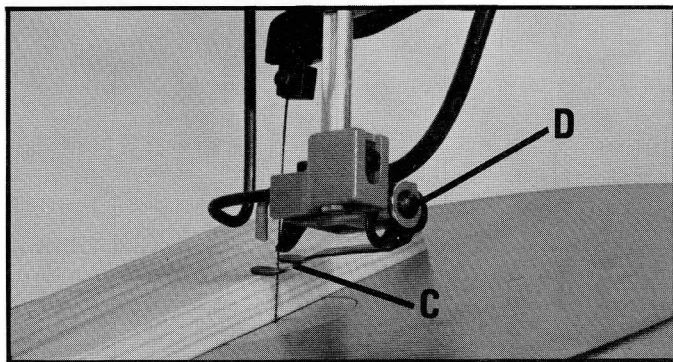

Fig. 22
When the table is tilted, the holddown spring (C) Fig. 22, can be adjusted by loosening screw (D), to the same angle as the table, so it lies flat on the work.